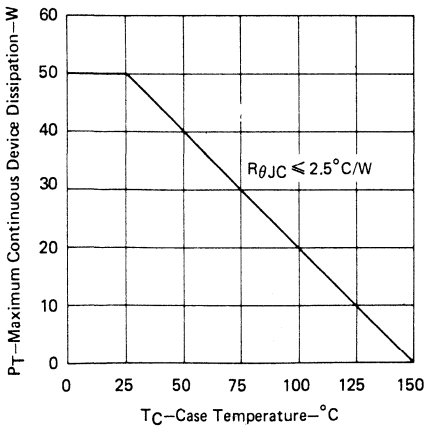

FIGURE 9
3. Derate linearly to 150°C case temperature at the rate of 0.52 W/°C or refer to Dissipation Derating Curve, Figure 9.